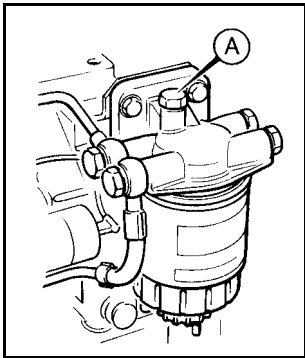

Fig. 6 Priming the Fuel Filter
2. Release the bleed screws, (A) see Figure 6, on the filter and re-tighten when no further air bubbles are expelled.